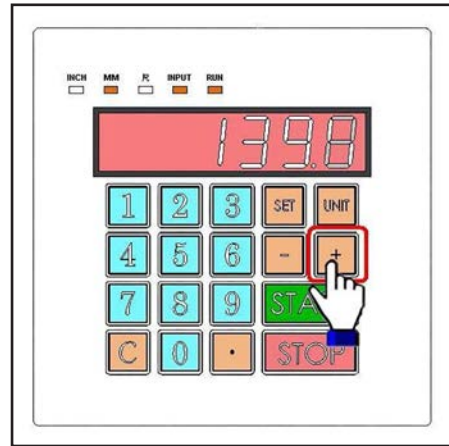

**Figure 32.** Manually increasing value.
- a. You can also use the + and - buttons to manually raise or lower the display value (see **Figures 32–33**). Press and hold + button until display increases to 200.0mm.